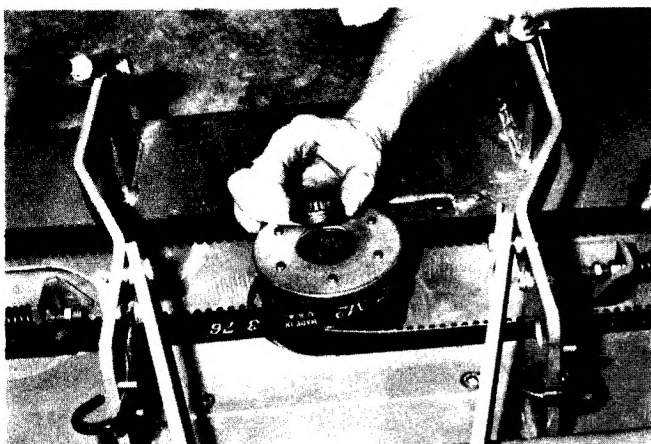

FIG. 10.18--INSTALLING SPACER BETWEEN GEAR-BOX AND PULLEY
24. Install spacer, with chamfer up, on pulley as shown in Fig. 10.18 and install gearbox.